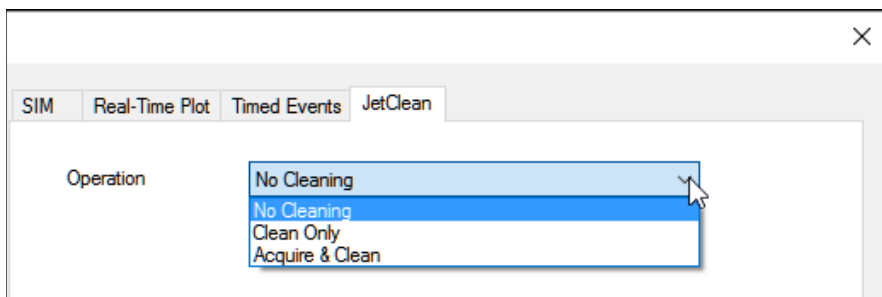

Figure 41 Selecting the JetClean Operation mode
- 2 In the Single Quadrupole MS Method Editor navigation panel, select the **JetClean** tab. (See **Figure 41**.)